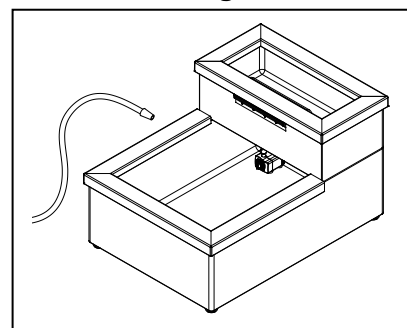

Fig. 11
11. Fill the basin with water, make sure that the plug on basin is closed. Check for leakage. If there is a leak, use the liner patch kit provided. Fig. 11